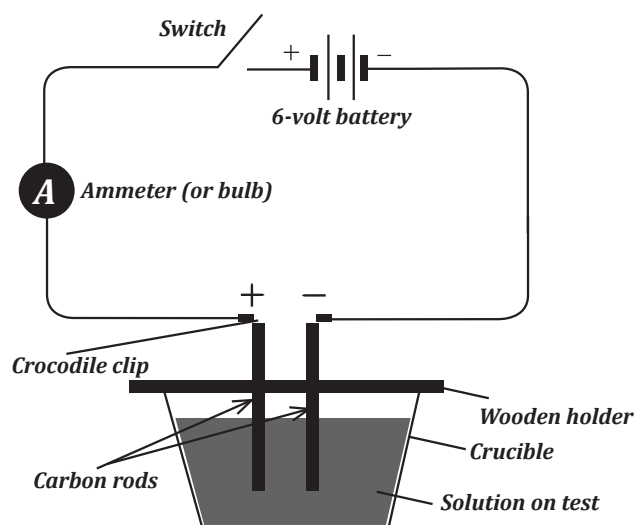

Figure 14.8; to find out which solids and solutions conduct electricity.
2. Arrange the electric circuit as in figure 14.8 . A 6-volt battery or any other 6-volt direct current (d.c) supply is connected by a copper wire to a switch and either a 6-volt bulb in a bulb holder or an ammeter. You can include a variable resistor if necessary. Two carbon rods take the current into and out of the solution being tested.
4. Use the following solutions; diesel, ethanol, dilute hydrochloric acid, sodium hydroxide, sodium chloride, sugar solution and dilute sulphuric acid and clean the two carbon rods after each experiment. If we are to investigate the conduction of electricity by molten substances we should use the same circuit as that used for investigation of the conduction of electricity by a variety of substances in the solid and liquid states. The substances to be used for testing are such as wax, sugar, lead (II) bromide, potassium iodide, lead (II) iodide.